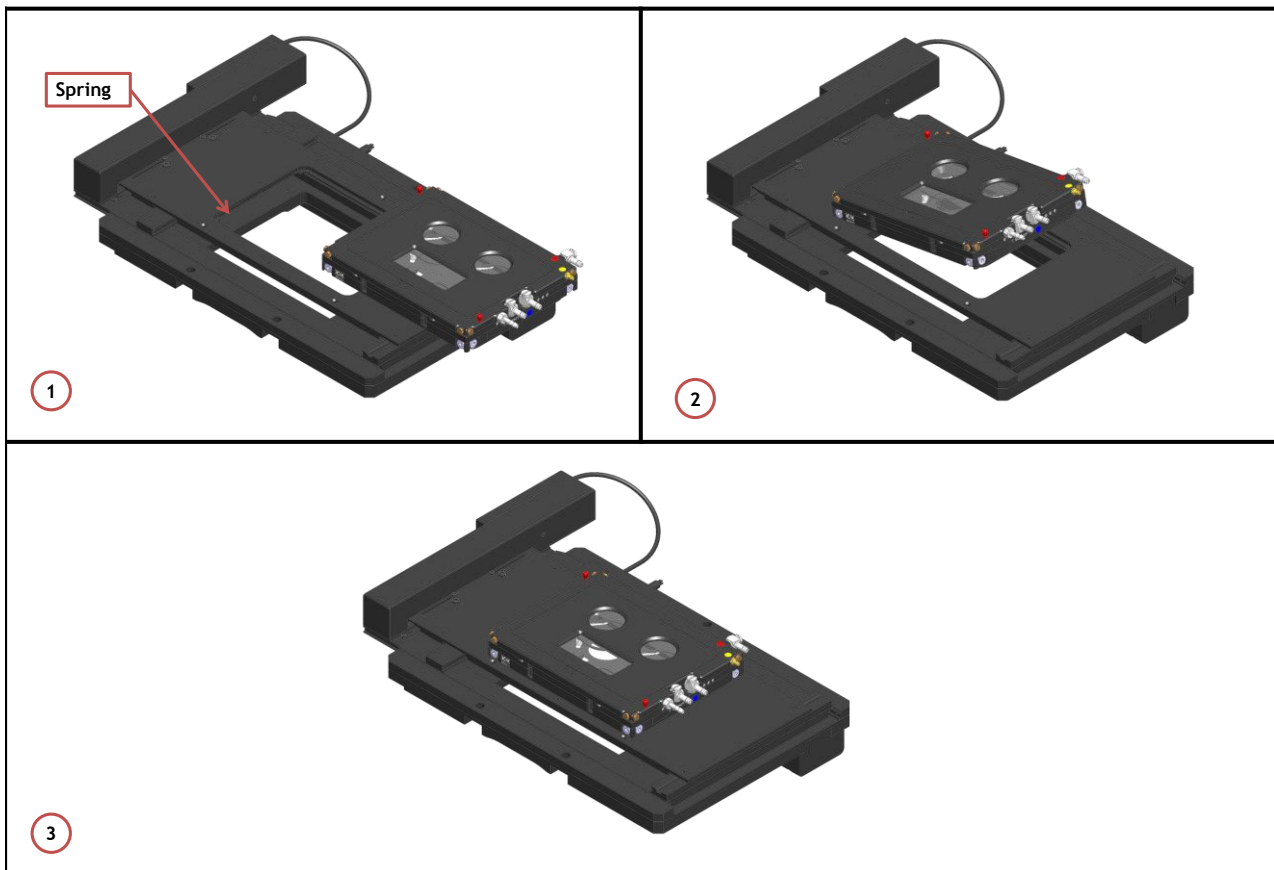

Figure 17. Connecting the Chamber with XY Stage
H101-K-FRAME fits on the XY Stage without any screws. To fix the chamber to the stage, follow the steps shown in Figure 17.
1. Place the chamber on the stage (See Image 1 of Figure 17).
2. Tilt the chamber and slide it towards the spring until it snaps in place. (See Image 2 of Figure 17).
3. Image 3 of Figure 17 shows the chamber installed on the XY Stage.